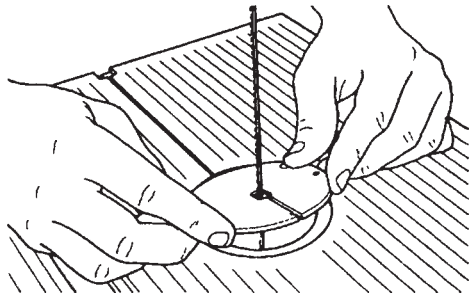

Figure A-34
- Clip the insert in its hole, as in Fig. A-34, with the clips going into the table first.